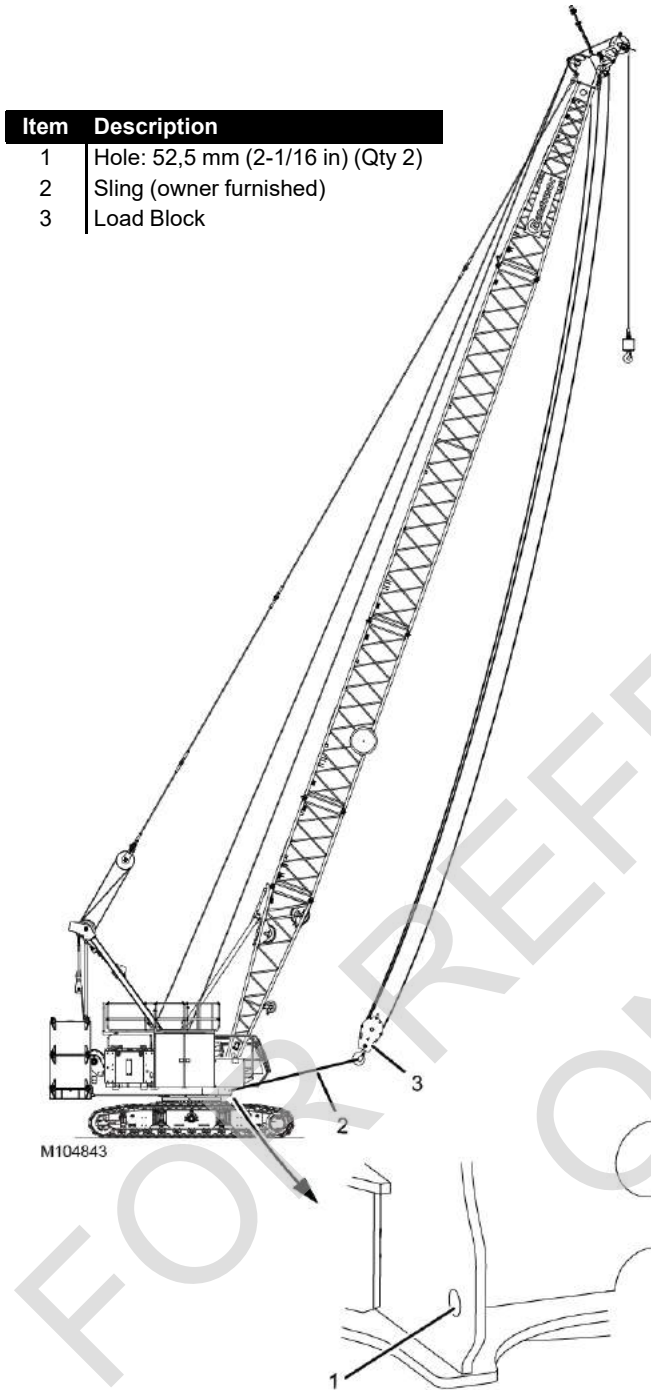

Figure 4-62
Holes (1, Figure 4-62) on the front of the rotating bed can be used to tieback the load block (3) when not in use.